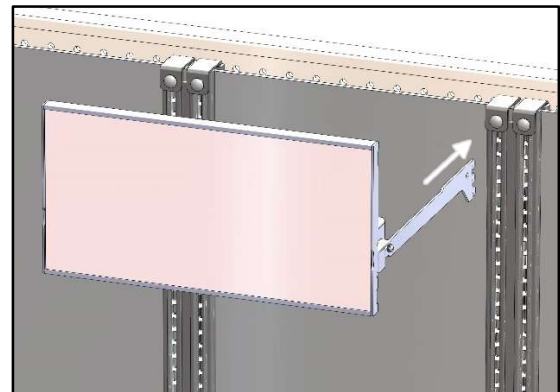

Figure 23
5. Install the Signs on the wall by inserting the bracket hooks into the Upright slots. Install the top hooks into the slot number indicated on the Plan-O-Gram (See Figure 23).